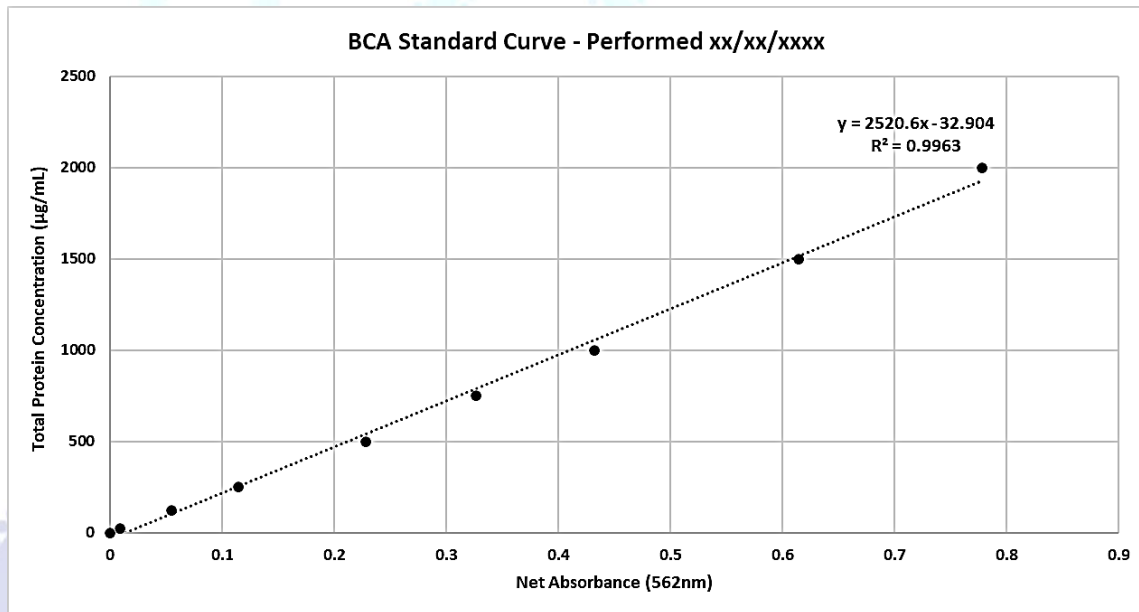

Figure 1. Standard curve produced from BSA protein standard (2 mg/mL). Exosome protein quantification is then derived from this graph.
**Note:** The standard curve (fig 1.) measured from triplicates of each exosome sample preparation. Blank samples are derived from using 0.22 µm filtered reagent grade water.